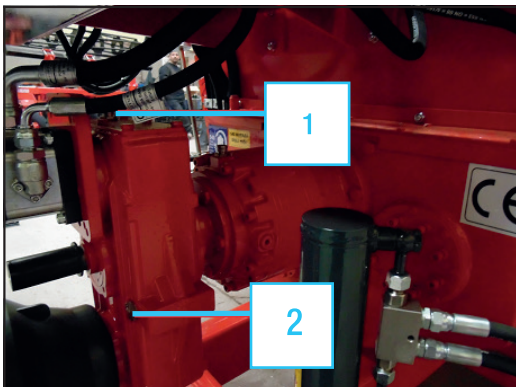

Figure 26- The PTO reduction gearbox
PTO Reduction Gearbox: After the first 50 hours of operation, drain initial oil, preferably warm. To drain the oil remove the drain plug located on the bottom of the gearbox. Flush out the gearbox with an approved non-flammable, non toxic solvent and refill with GEAR OIL SAE90EP/5.8 from the place which is shown in figure 26 with number one (1) to level of the sight plug, number two (2).